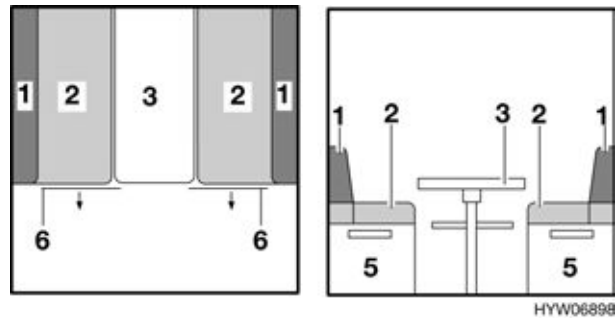

Fig. 78 Prior to conversion
- Slightly lift the front of the table-top (Fig. 78,3).